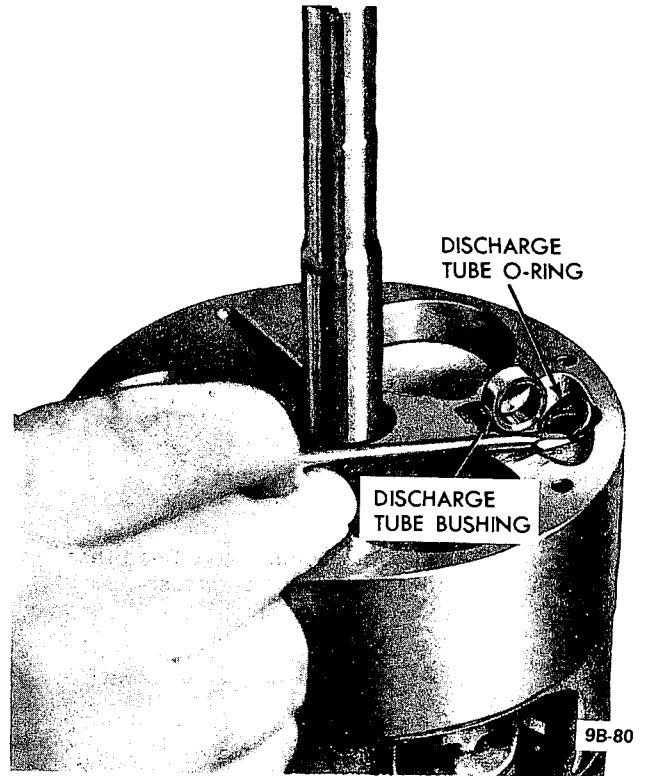

Figure 9B-106 Installing Discharge Tube O Ring and Bushing - 6 Cylinder Compressor
1. Assemble suction reed valve disc to front of cylinder assembly and align with dowel pins, suction port and discharge port (see Figure 9B-107).